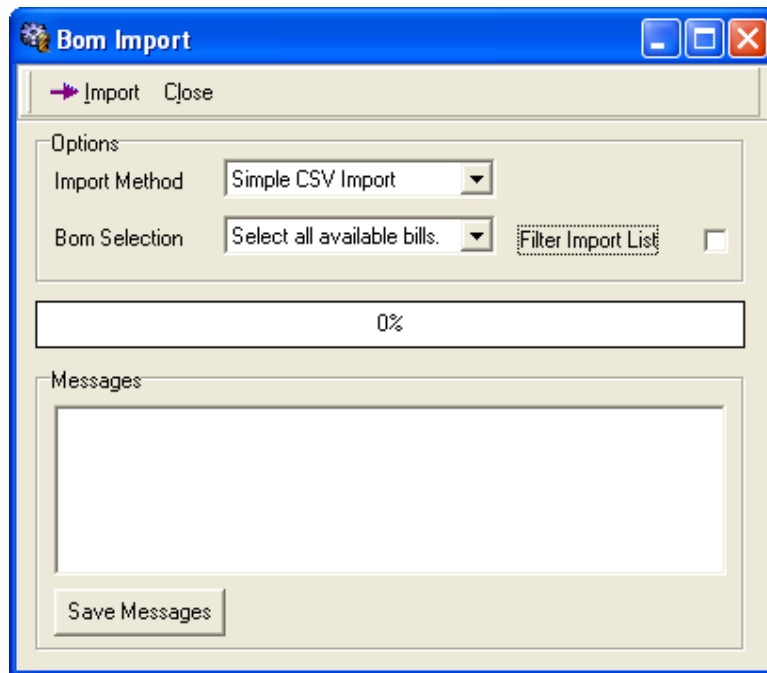

figure 2
1. From the top menu in MS select Utilities\Import BOM. Select the *Simple CSV Import* from the Import Method drop down list (figure 2). You can choose to *Select all available bills* or *Select bills to import*. Fig. 2